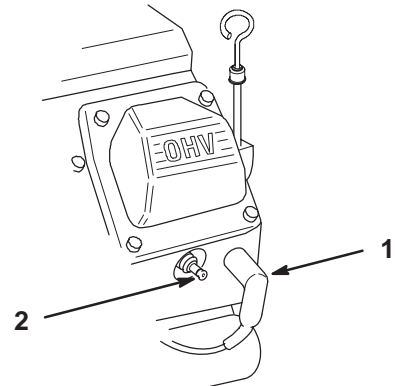

Figure 40
2. Pull the wire(s) off the spark plug(s) (Fig. 40). Now clean around the spark plug(s) to prevent dirt from falling into the engine and potentially causing damage.
3. Push the wire(s) onto the spark plug(s) (Fig. 40).